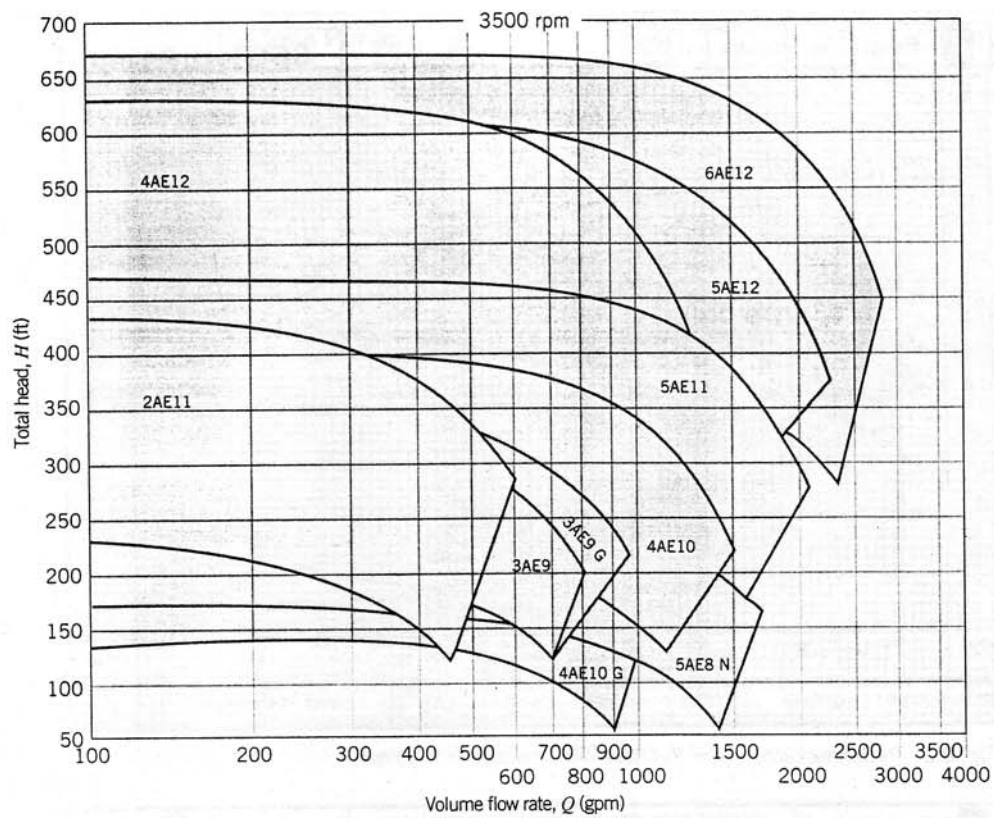
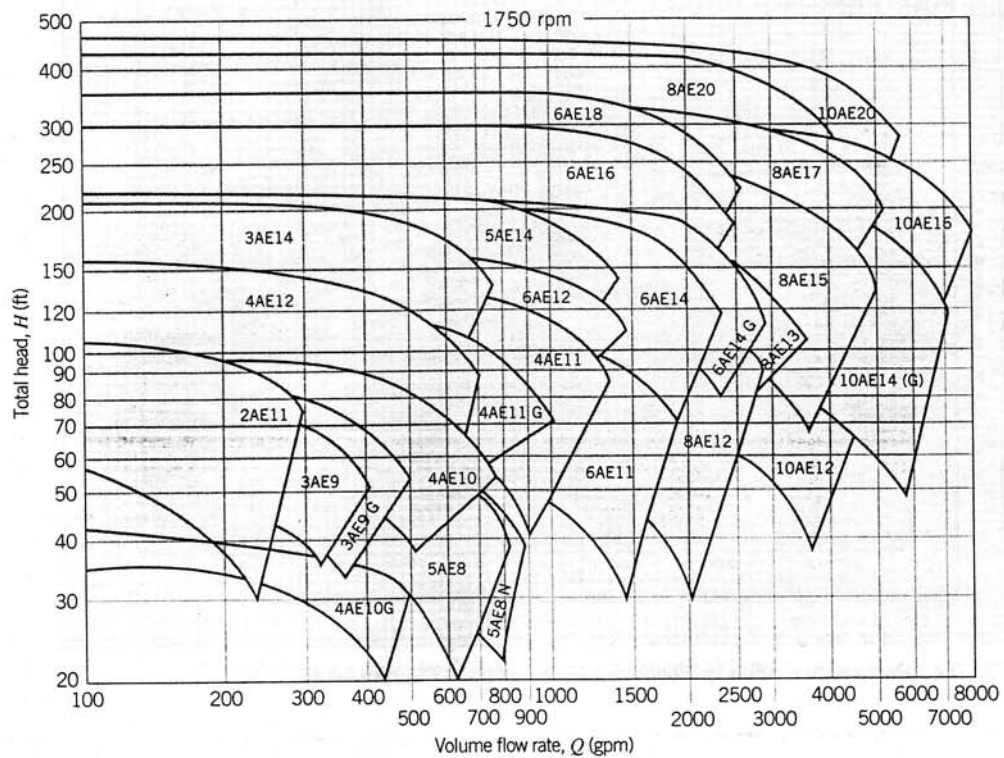

Fig. D.1 Selector chart for Peerless horizontal split case (series AE) pumps at 3500 nominal rpm.
Fig. D.2 Selector chart for Peerless horizontal split case (series AE) pumps at 1750 nominal rpm.
Step 2: *use selector charts.* The desired operating point is not within any pump contour on the 3500 rpm selector chart (Fig D.1). From the 1750 rpm chart (Fig D.2) select a model 6AE14 pump. From the performance curve for 6AE14 pump (Fig D.6) choose a 13 in. impeller.